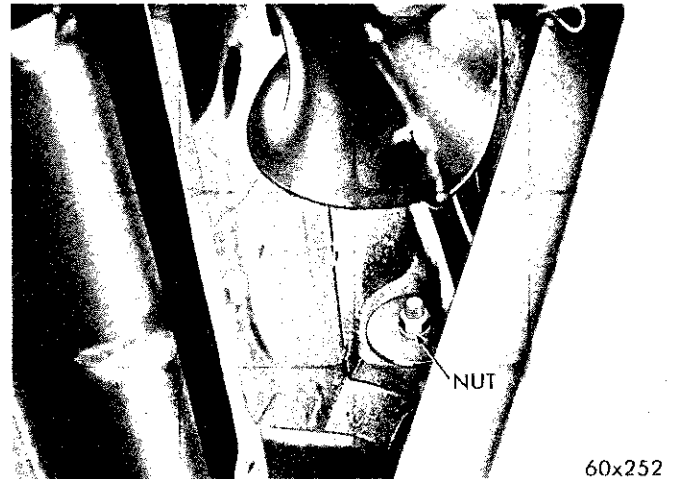

Fig. 10—Radiator Support to Frame Yoke Mounting
(10) Remove the bolts attaching the front end sheet metal to the stub frame yokes (Fig. 10).
(11) Disconnect the radiator yoke from the frame.
(12) Raise the fenders off of the mounting studs at the cowl and remove all front end sheet metal and radiator as an assembly. With all front end sheet metal removed, raise the car on a hoist.
(13) Disconnect the propeller shaft and the trans-